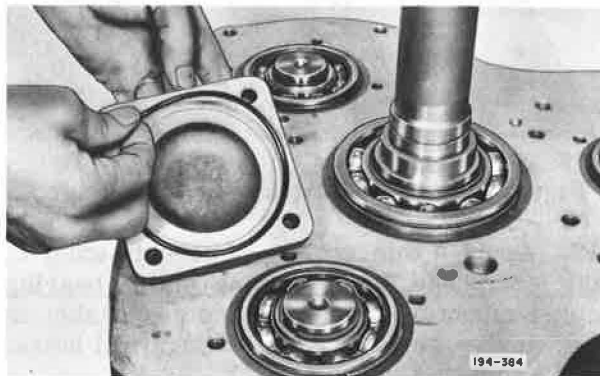

Figure 5-171. Installing Compound Counter-shaft Upper Front Bearing Cover O-Ring
16. Install O-Ring in each of the two upper bearing covers. See Figure 5-171. Install cover assemblies with capscrews on front of compound case and tighten capscrews to recommended torque.